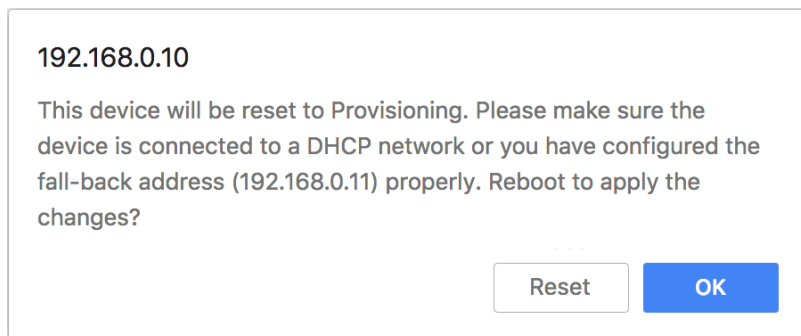

Figure 19. Unit reboot dialog (typical)
- The web browser will show the unit reboot dialog (Figure 19 \(page 52\)).